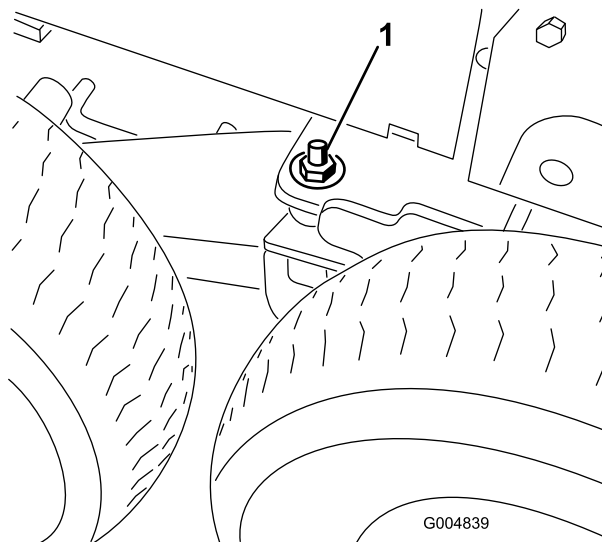

Figure 75
7. Remove the 1/2" locknut and flat washer from the left and right bogie pivot weldment to unlatch the pivot (Figure 75).
11. Lower the floor jack until the bogie pivot weldment moves enough so that the 1/2" flat washer and locknut can be installed on the stud and threaded finger tight on both sides of the machine (Figure 75).